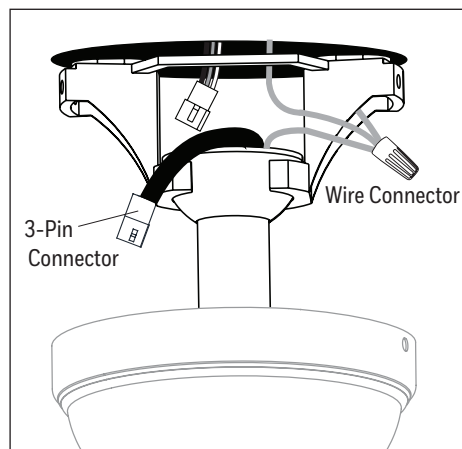

Figure 5.2
2. Connect the 3-pin connector extending from the downrod to the 3-pin connector on lead wire. Then, connect the green/bare (ground) supply wire to the green wires from the downrod and the mounting bracket (Figure 5.2).